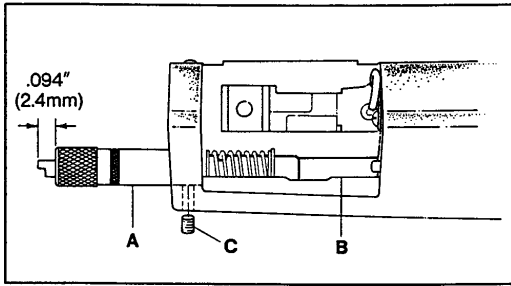
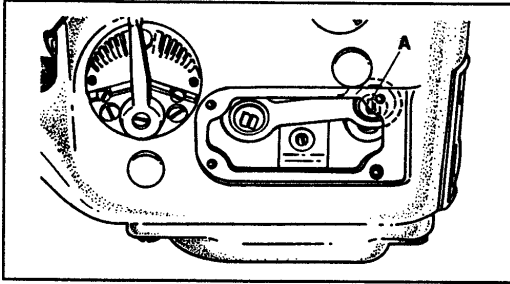

FIG. 11
FIG. 12
The looper avoid is set at .094" (2.4mm). Using gauge no. 21227BV (A, Fig. 11), position looper shaft (B) fully to the rear (away from operator) and insert the gauge through the looper shaft hole in the end of the cylinder until the plunger is fully extended from the gauge. Tighten clamp screw (C). When the looper is positioned fully to the front, the end of the plunger should be flush with the end of the gauge. The motion of the plunger from the extended position to flush represents .094" (2.4mm) travel. To adjust the looper avoid remove the cylinder cover and loosen screw (A, Fig. 12) with TT-85 wrench. Raise the ball joint to shorten the avoid motion or lower it to lengthen the avoid motion. Tighten screw (A). Reposition gauge (A, Fig. 11) and recheck the setting.